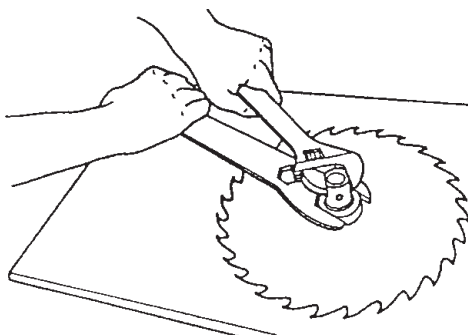
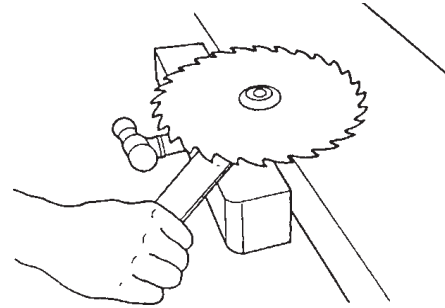

Figure B-59d
Figure B-59e
- d. Hold the arbor with an adjustable wrench and tighten the arbor nut with the arbor wrench, as demonstrated in Figure B-59d. Another way to tighten the arbor nut is to clamp the arbor in a bench vise, as illustrated in Figure B-59e, and tighten the nut with the arbor wrench.